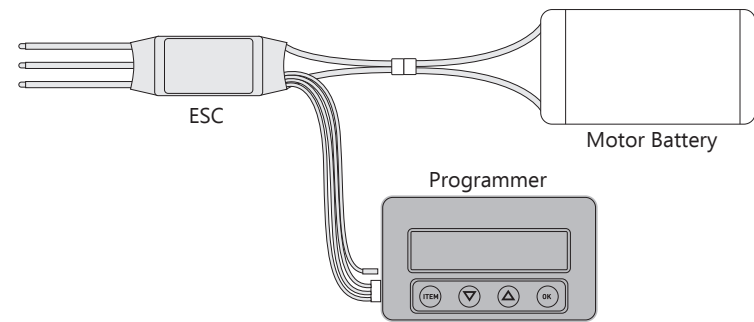

Figure 8
1. Connect the ESC control lead to the 3-pin port on the Programmer as shown below in Figure 8. The yellow wire from the ESC control lead is left unplugged in this mode.